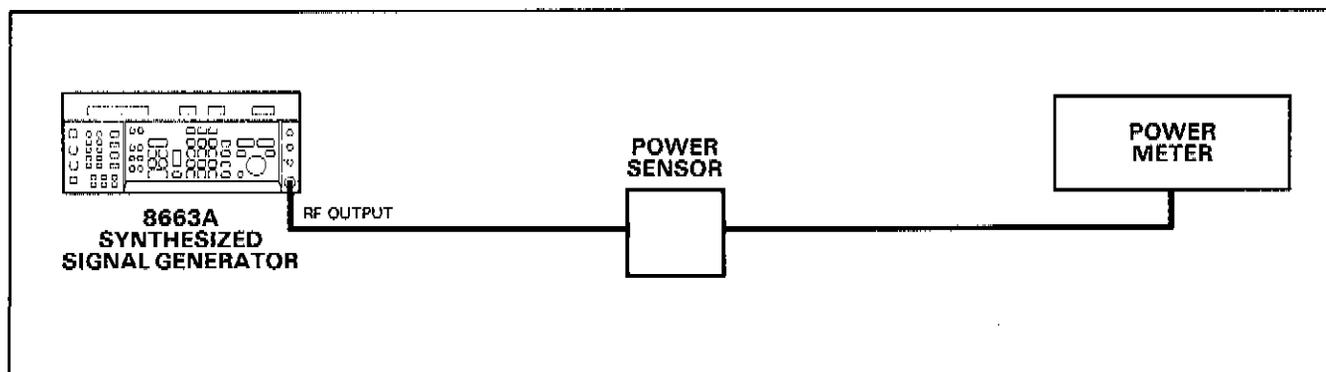

Figure 4-7. Level Accuracy and Flatness Test Setup
1. Connect the power sensor to the Generator as shown in Figure 4-7, and zero the power meter.